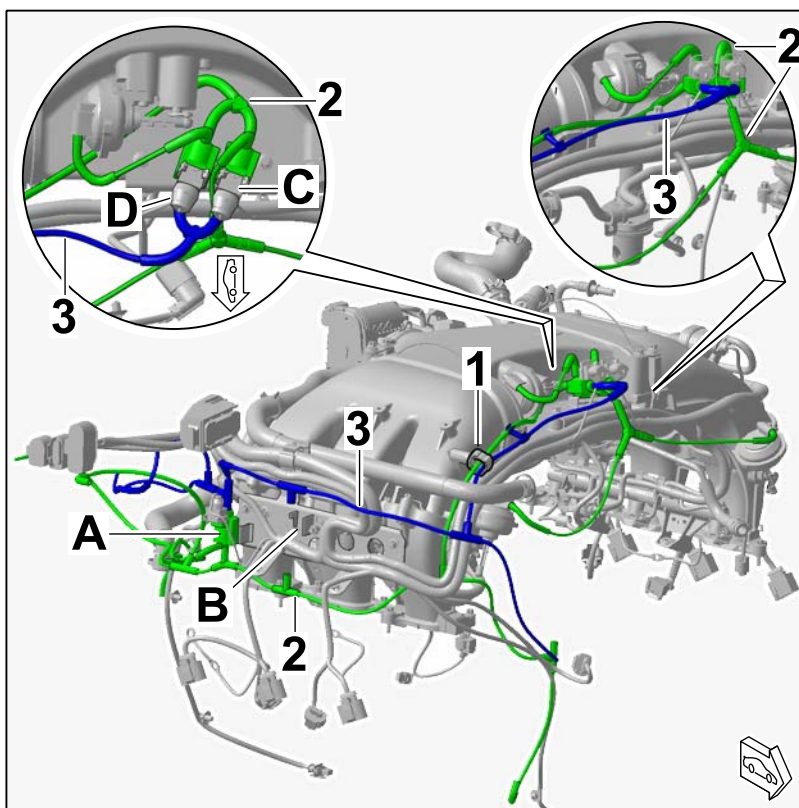

Figure 23
- 2.8.2 Clip control valves (⇒ *Figure 23-A / B / C / D*) into the intake-air distributor holders.
- 2.8.3 Fit vacuum system and fresh-air system on the engine and secure in holders (⇒ *Figure 23*).